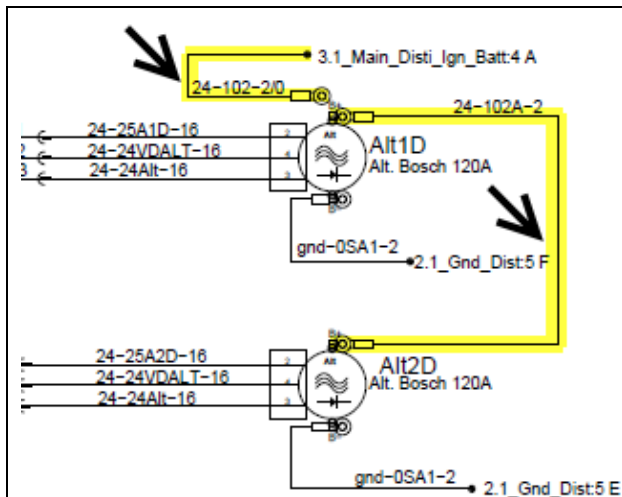

Figure 1 – R.H. SIDE ALTERNATORS (2x BOSCH)
- On the **alternators positive (+) stud terminal** and from there, up to junction block in the electrical compartment (Figure 1 to 5).